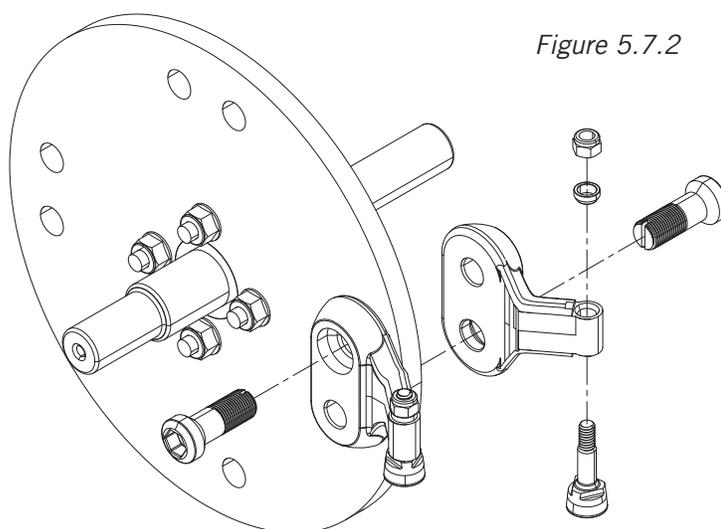

Figure 5.7.2
8. Slide the LoPro bolts through the empty holes in the disk and thread them into the adjacent pocket's threaded holes. For now, firm up the LoPro bolts until pockets are seated. See Figure 5.7.2.